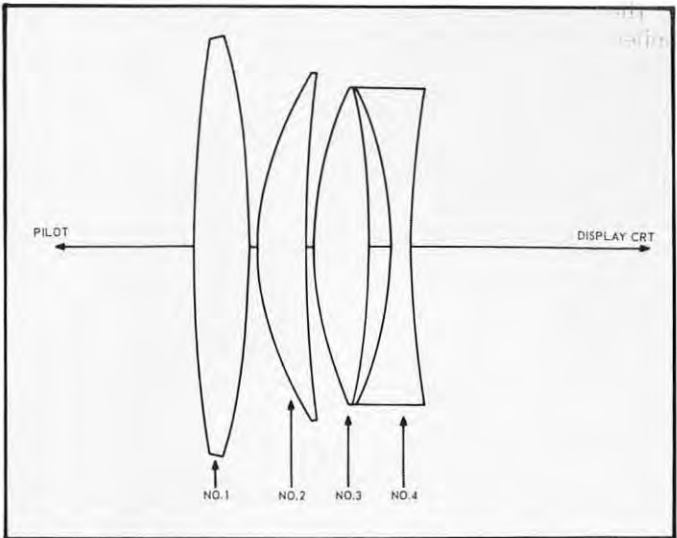

FIGURE 3: Plastic refractive component, final configuration
a Petzval-type (PP) objective,3 capable of correction for large apertures over moderate fields. The final design configuration is shown in figure 3.
Ultimately, three final configurations evolved from the more than 30 initial designs. The optimum design shown in figure 3 was fabricated, assembled, and tested in duplicate to determine the feasibility of nesting multiple elements of a mosaic.